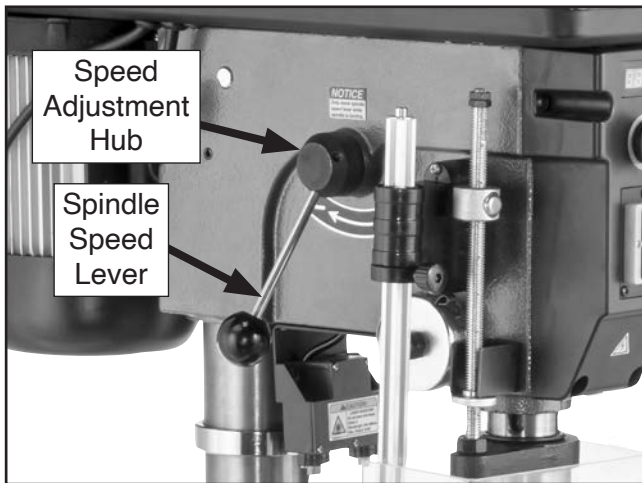

Figure 25. Spindle speed lever installed (T33961 shown).
13. Thread spindle speed lever into speed adjustment hub (see **Figure 25**).